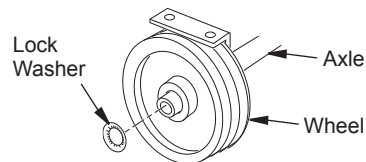

Figure 3 - Wheel/Axle Assembly for 280-IF
- Insert the locking washer (which is in the documentation envelope) with the convex side towards the exterior of the machine; using a hammer and an appropriate-sized spanner, tap it gently to fix it into position (see Figure 3).